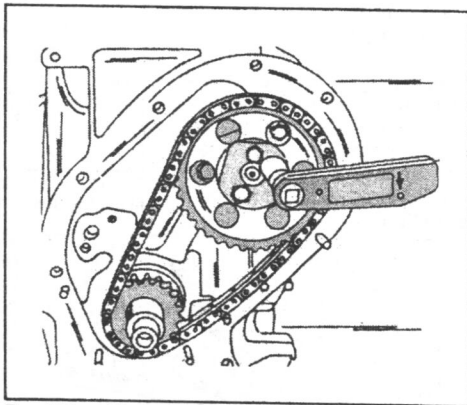

Fig. 1.75. — The camshaft sprocket is secured with three locked screws to the camshaft.
- Place a new lockplate over the camshaft sprocket and fit the three bolts. Tighten the bolts to 2.3 kgm (17 ft.lb.). Fig. 1.75 shows the operation. The lock plate tabs must be bent over the sides of the three bolts.